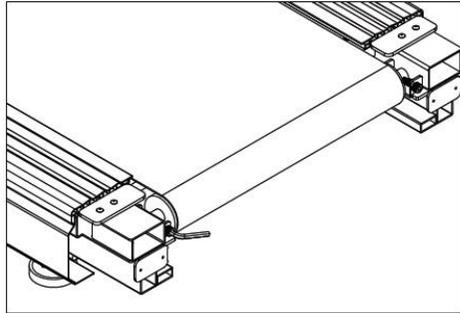

Figure 4.5.2
4.5.2 As shown in Figure 4.5.2, use the No. 8 L-type hex wrench to remove the two rear wheel screws.